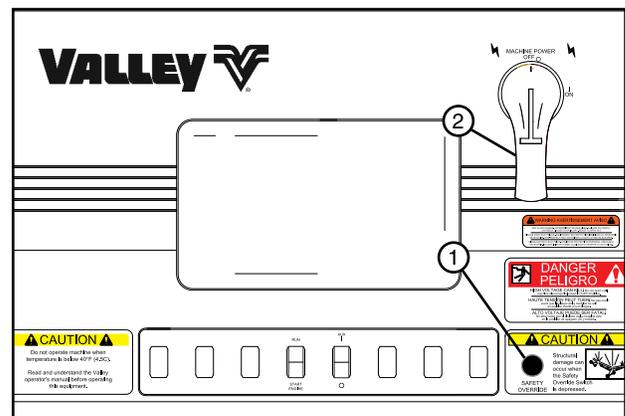

Figure 23-2 1. Stop Key
1. Press the STOP key. See Figure 23-2.
2. Turn the main disconnect switch to the OFF position. See Figure 23-2.